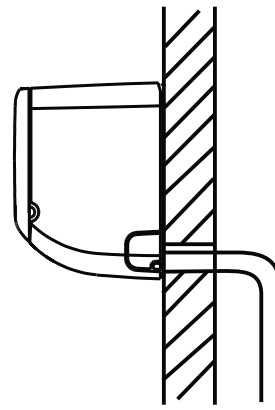

Fig. 6.3a
2. Using example **Fig. 6.3a** as a guide, make sure your drain pipe is run in a similar manner. The other examples in **Fig 6.3** represent things you should avoid when installing your drain pipe.
Make sure to arrange the drain hose correctly according to Fig. 6.3a.